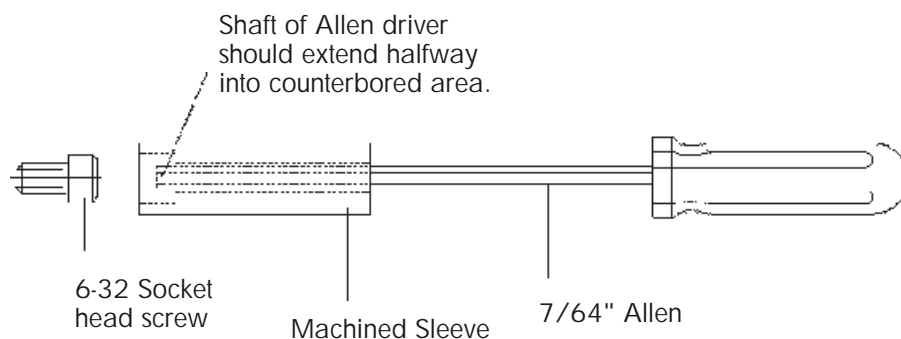

Figure 3-4. Correct arrangement of sleeve on shaft of Allen driver
4. Now you are ready to remove the screws that secure the crucible to the crucible mounting flange. To do so, use the special Allen tool provided with the source. This tool consists of a standard $7/64$ " Allen driver with a machined sleeve fitted over its shaft (see Figure 3-4). If you are not experienced using this tool, perform step 5 of this procedure. If you are already proficient at using the tool, skip step 5 and proceed to step 6.